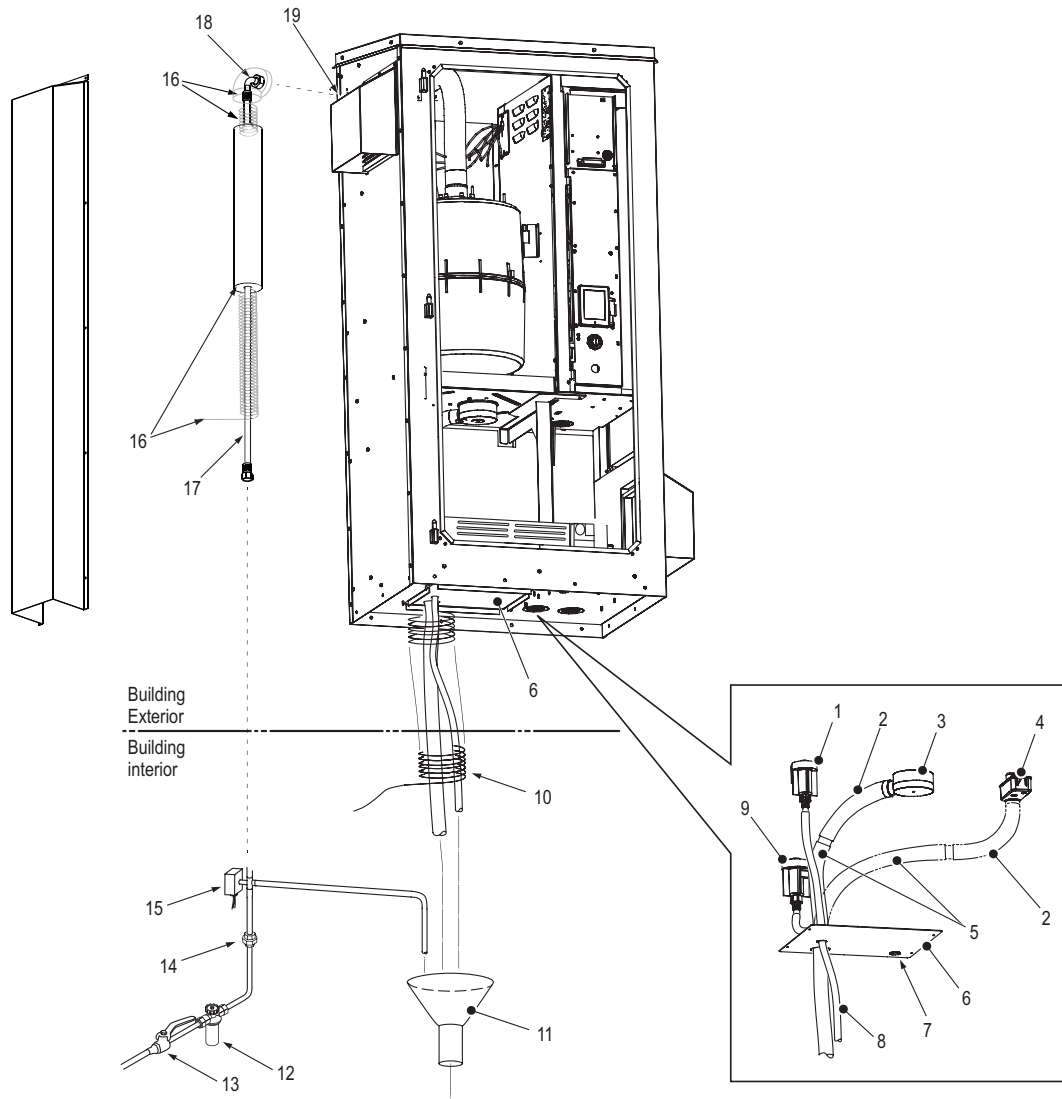

Figure 14: Water Supply and Drain Connections (medium size Nortec EL-OC unit shown)
Connect the water supply and drain lines as described below. Refer to *Figure 14*.
- Route a drain line (supplied by others) with an inside diameter of 1-3/16 in (30 mm) through the large hole in the bottom panel and connect it to the flexible bent hose (supplied) exiting the humidifier – refer to Figure 14 on page 36. Secure the line with clamps (supplied). Route the other end of the drain line to the air gap funnel.